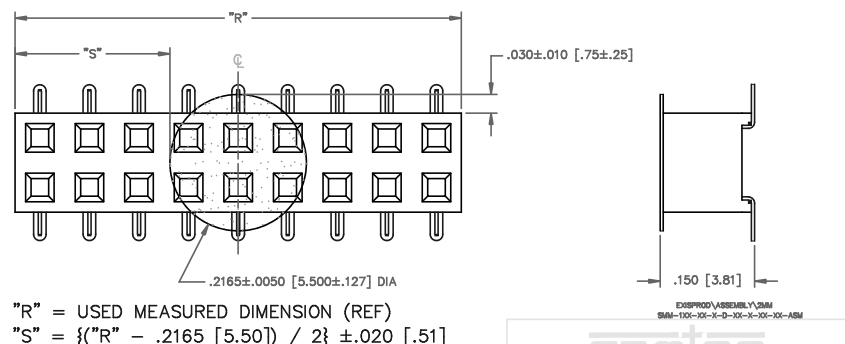

FIG. 4
-K: POLYAMIDE FILM PAD (USE K-DOT-217-313-.005) (.005±.13) THICKNESS, SEE FIG 4 (2 POS MIN, SEE NOTE 10) (AVAILABLE ON LEAD STYLE -02 ONLY)